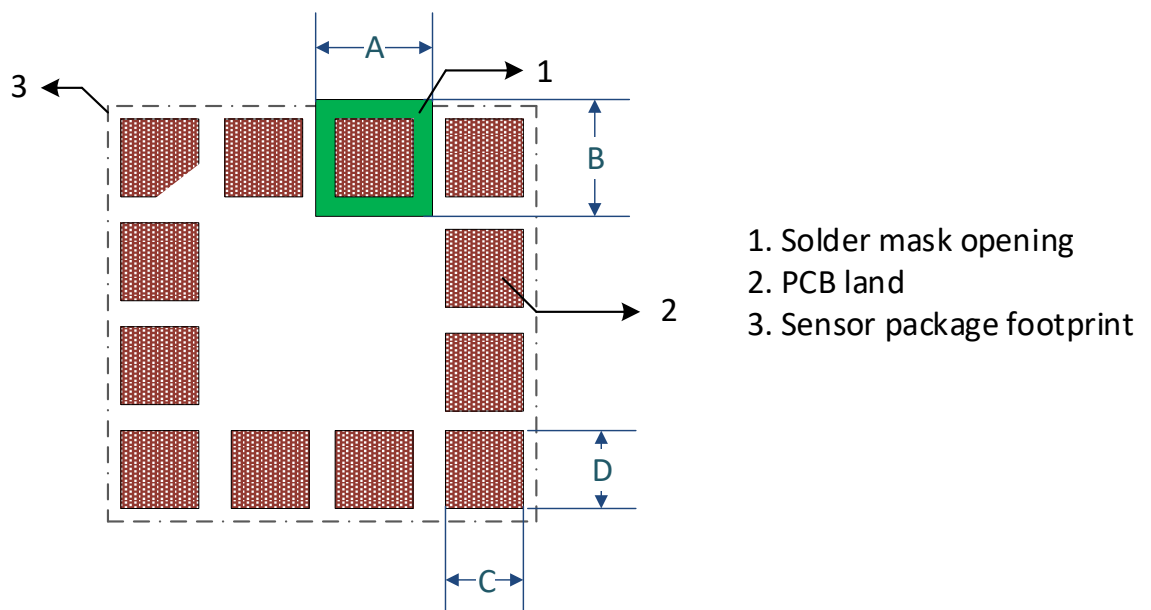

Figure 1: PCB land and solder mask recommendations for sensors with LGA package
- The solder mask opening external to the PCB land is highly recommended. Please refer to figure 1.